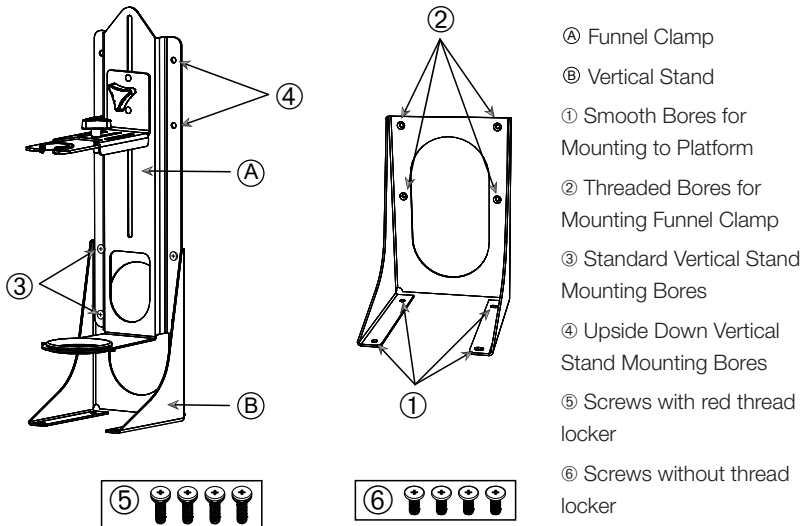
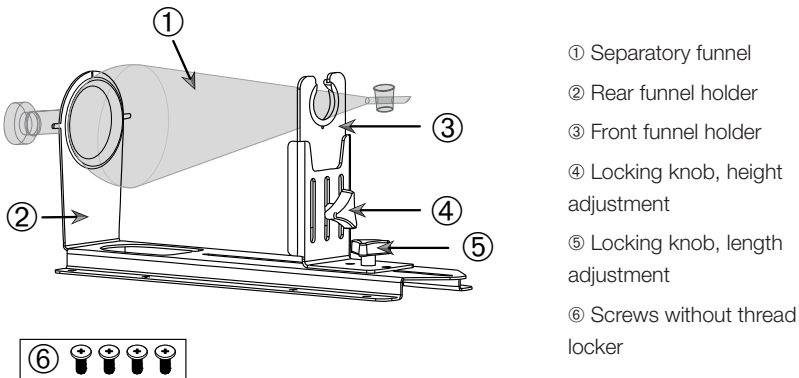

Figure 93: Separatory Funnel Clamp (right) with Vertical Stand Accessory (left)
Figure 94: Separatory Funnel Clamp Assembly
Figure 93 shows the separatory funnel clamp assembly ① with its vertical stand accessory ② side by side.
2. Align as follows with the four funnel clamp mounting bores (② in Figure 93) of the vertical stand:
- a. Use the standard vertical mounting bores (③ in Figure 93) to install with the funnel tap facing downwards.
- b. Use the upside down vertical mounting bores (④ in Figure 93) to install with the funnel tap at facing upwards.
- c. Secure the separatory funnel clamp to the vertical mount with the screws supplied (⑤ in Figure 93).
3. Fasten the separatory funnel clamp assembly to the platform using the screws supplied with the separatory funnel clamp (⑥ in Figure 93 and Figure 94).